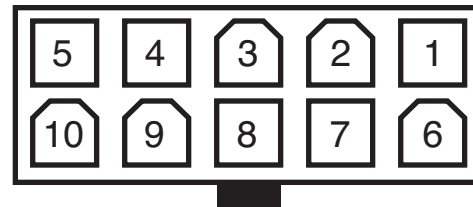

FIG. 3
7. Insert pins into connector. When looking at the connector, be sure you are plugging in pins in the correct side. Refer to FIG. 3 for correct orientation and pin locations. Use the Wiring Key provided on page 4 to identify related components.